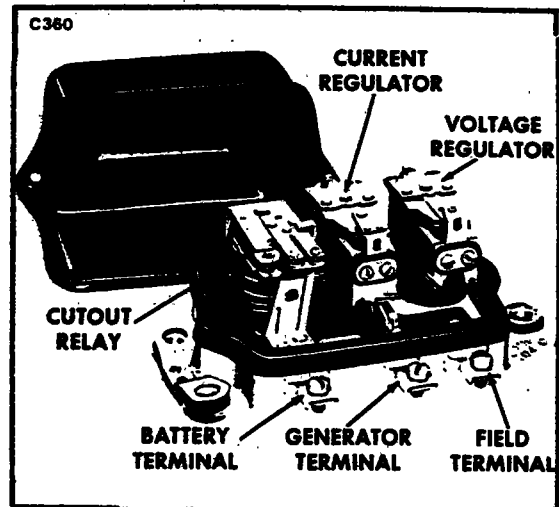

Figure 11-4. Current/Voltage Regulator
**11-24. DESCRIPTION OF REGULATOR.** The regulator shown in Figure 11-4 consists of a cutout relay, a voltage regulator and a current regulator unit. The cutout relay closes the generator to battery circuit when the generator voltage is sufficient to charge the battery, and it opens the circuit when the generator slows down or stops. The voltage regulator unit is a voltage-limiting device that prevents the system voltage from exceeding a specified maximum and thus protects the battery and other voltage-sensitive equipment. The current regulator unit is a current-limiting device that limits the generator output so as not to exceed its rated maximum.
a. The cutout relay (Refer to Figure 11-4.) has two windings, a series winding of a few turns of heavy wire and a shunt winding of many turns of fine wire (shown in dashed lines). The shunt winding is connected across the generator so that generator voltage is impressed upon it at all times. The series winding is connected in series with the charging circuit so that all generator output passes through it. The relay core and windings are assembled into a frame. A flat steel armature is attached to the frame by a flexible hinge so that it is centered just above the stationary contact points. When the generator is not operating, the armature contact points are held away from the stationary points by the tension of a flat spring riveted on the side of the armature.
a. The voltage regulator (Refer to Figure 11-4.) has two windings assembled on a single core, a shunt winding consisting of many turns of fine wire (shown in dashed lines) which is shunted across the generator, and a series winding of a few turns of relatively heavy wire which is connected in series with the generator field circuit when the regulator contactpoints are closed.
a. The current regulator (Refer to Figure 11-4.) has a series winding of a few turns of heavy wire which carries all generator output. The winding core is assembled into a frame. A flat steel armature is attached to the frame by a flexible hinge so that it is just above the core. The armature has a contact point which is just below a stationary contact point. When the current regulator is not operating, the tension of a spiral spring holds the armature away from the core so that the points are in contact. In this position the generator field circuit is completed to ground through the current regulator contact points in series with the voltage regulator contact points.